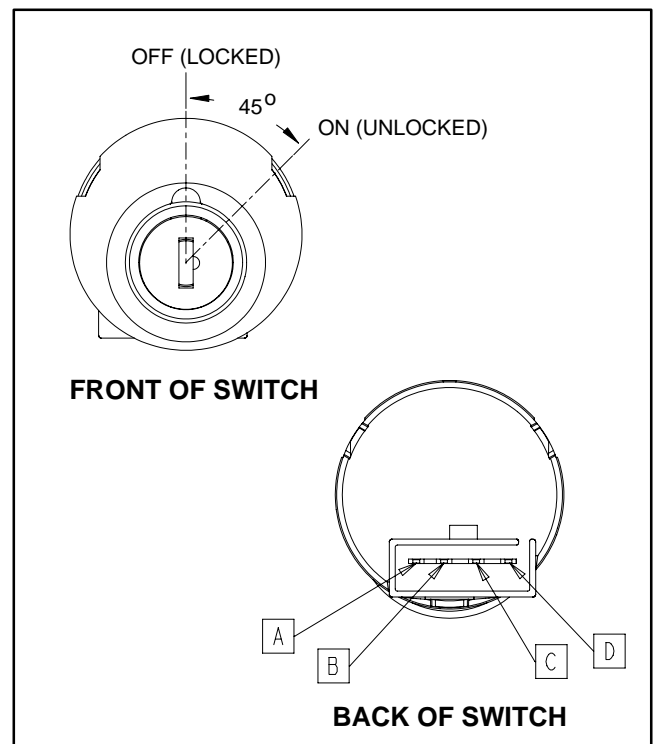

Figure 31
3. With the use of a multimeter (ohms setting), the switch functions may be tested to determine whether continuity exists between the various terminals for each switch position. The switch terminals are marked as shown in Figure 31. The circuitry of the rate lockout key switch is shown in the chart below. Verify continuity between switch terminals.